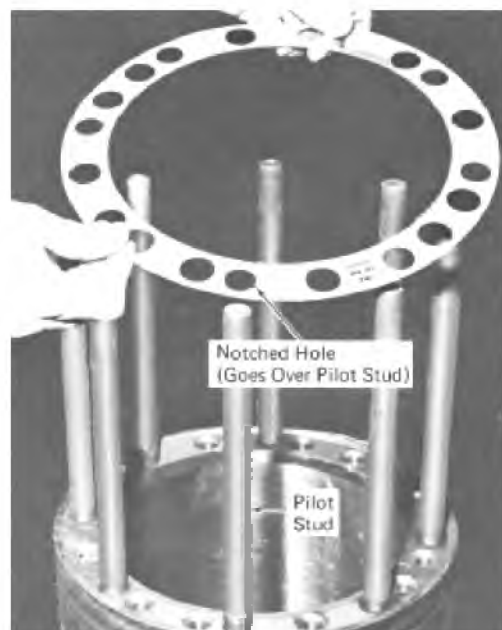

Fig. 5-20 - Head To Liner Gasket
55. Install the head-to-liner gasket, Fig. 5-20, making sure that the proper gasket is used and that the gasket is placed over the liner studs with the part number and "EMD TOP 645" stamp facing up, and the the notched ear of the gasket is placed over the pilot stud of the liner.